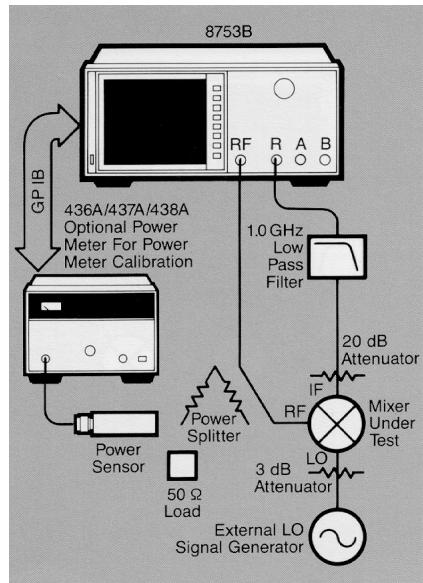

Figure 12. Block diagram for a conversion compression measurement
5. Connect the instruments as shown in Figure 12.
To enhance measurement accuracy, insert a power splitter between the RF source and the mixer's RF port. Connect the power meter (shown in Figure 12), to the power splitter's open port. Perform a one sweep power meter calibration.